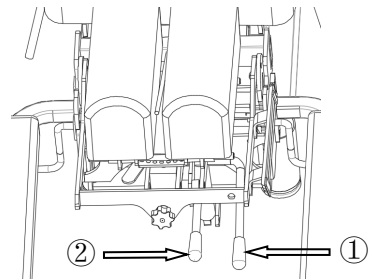

Figure 6
- Lift up the pull rod ① in Figure 6 to adjust head plate angle
- Lift up the pull rod ② in Figure 6 to activate the head plate drop section. Then press down on the head plate to achieve the effect of the drop pressure.